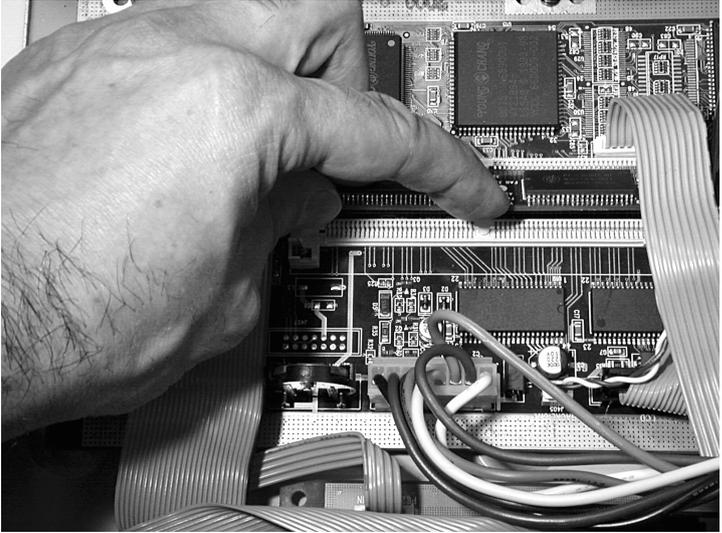

Figure 14 **Placing option board in SIMM socket**
4. Press straight down on the top edge of the board, as shown in Figure 14, until the locking tabs at each side of the socket snap into place.